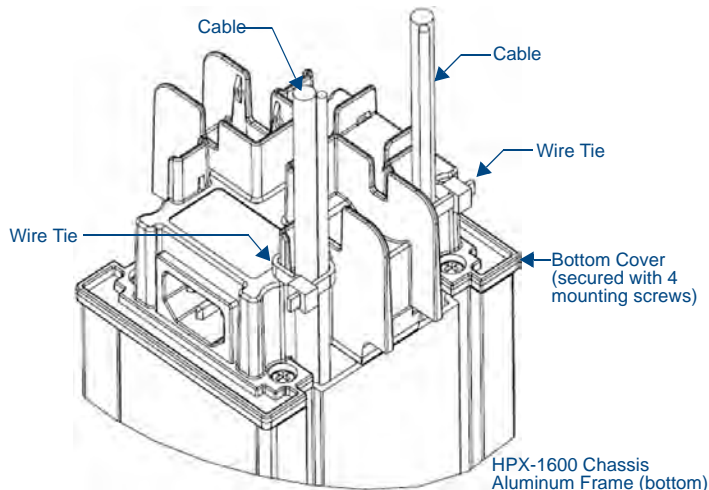

FIG. 4 Bottom Cover - Installed With Cables Exiting and Secured
2. After the bottom cover is secured using four screws, secure the cables to the corresponding tab near each opening using a small cable tie (FIG. 4).